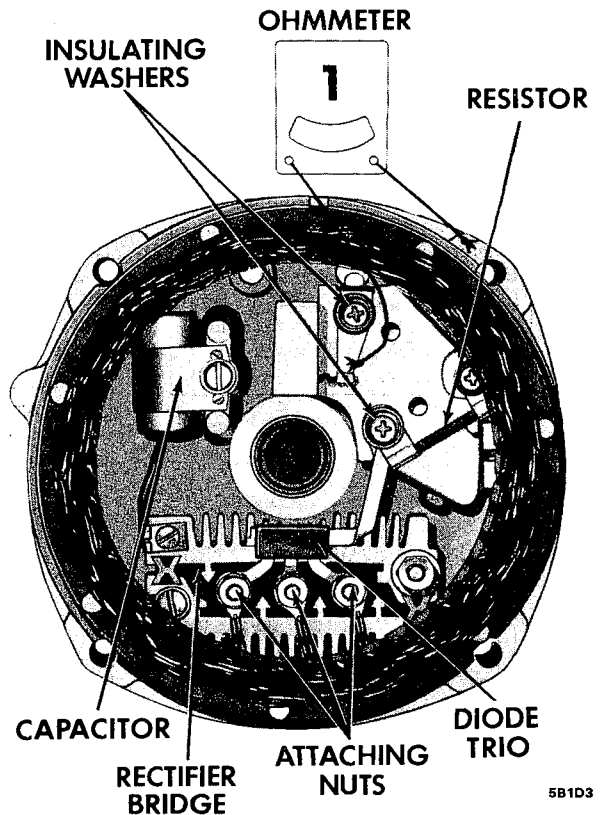

Figure 1D-3 - Checking Brush Lead Clip
b. Connect ohmmeter using lowest range scale from brush lead clip to end frame as shown in Step 1, Figure 1D-3 then reverse lead connections.